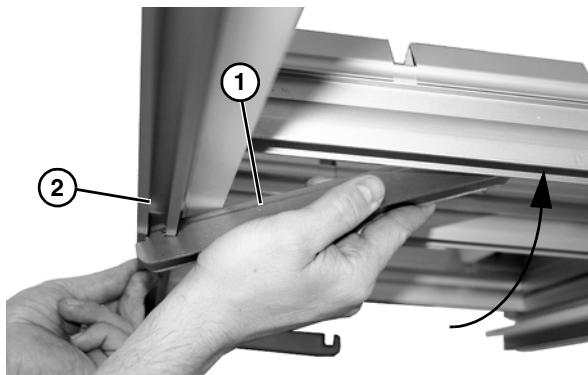

Figure 37
2. If necessary, rotate upward and remove bracket (**Figure 37, item 1**), from frame channel (**Figure 37, item 2**).